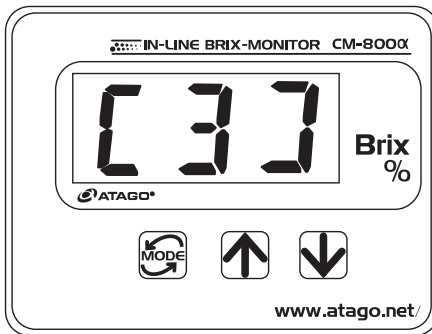

Fig.14-1
- 3 Press the  key for one second. [0] is displayed. Press the  key again and the display will change to [1]. Press the  key again to display [3] (Fig.14-1).
- 6 Press the  key. The lower limit value is now set and the display returns to [3] (Fig.14-1).